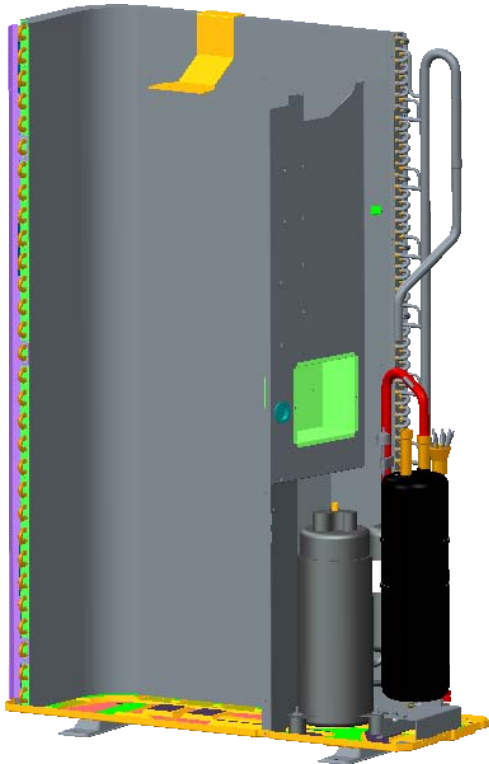

Fig.14
- Welding out the suction pipe and discharge pipe.[See Fig.14]